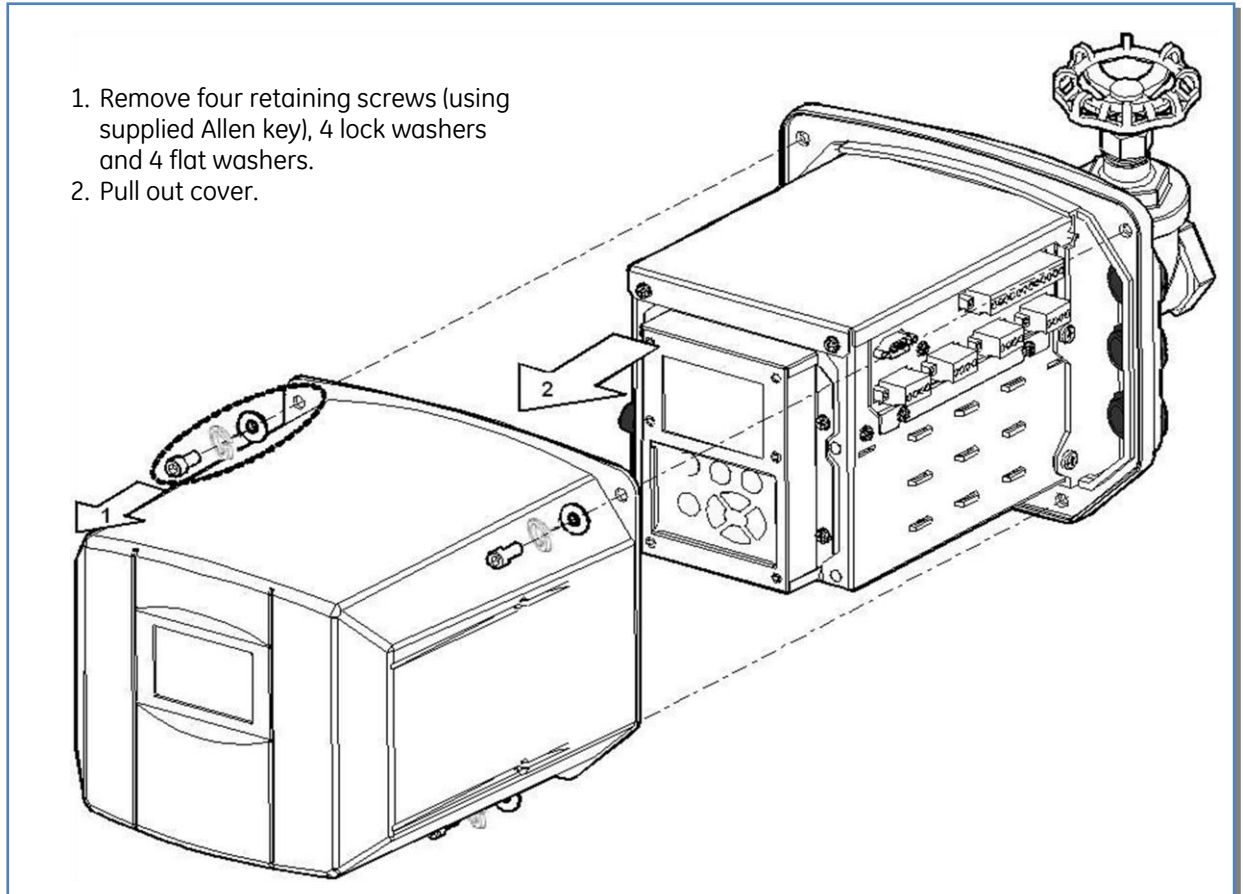

Figure 5-11: Removing the Hydran M2-X Cover
1. Remove the cover's four retaining screws using the supplied Allen key. See Figure 5-11.